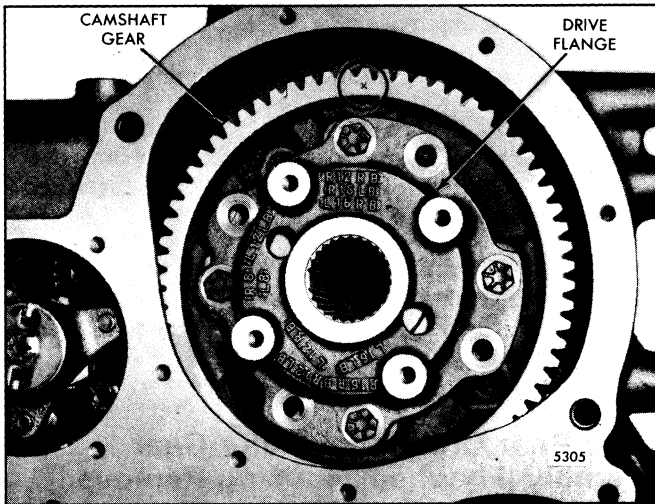

Fig. 7 - Current Right-Bank Camshaft Drive Flange
camshaft gear or the “X” stamped on the rim of the gear. A letter “X” is stamped on the rim of the gear above the dowel pin (Figs. 7 and 8). There are five (5) counterbored holes on the backside of the drive flange which will accept the dowel pin. It will be necessary to mate the dowel pin with the appropriate counterbored hole, identified by the raised letters on the opposite side of the flange.
EXAMPLE - Refer to Fig. 7; “R” indicates right-hand rotation, “12” the number of cylinders and “RB” the right bank camshaft gear assembly.